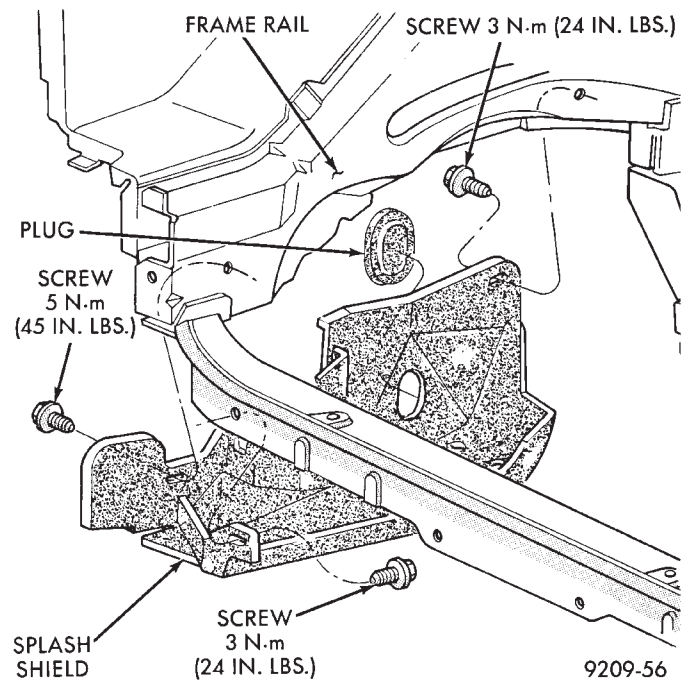

Fig. 8 Right Inner Splash Shield—Typical
- (4) Remove two steering pump to engine mounting bracket screws and one rear support lock nut.
- (5) Lay power steering pump aside.
- (6) Raise vehicle and remove right inner splash shield (Fig. 8).